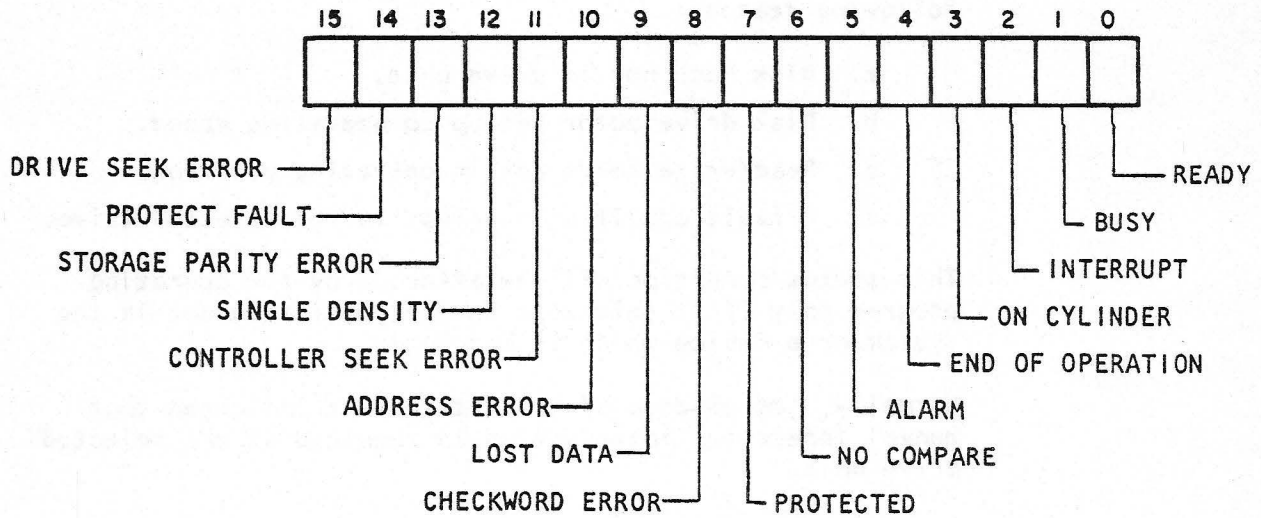

Figure 2-4. Director Status Format
DIRECTOR STATUS (001) This function is used to monitor the controller's operating status. The status information is loaded into the A register as shown in Figure 2-4.